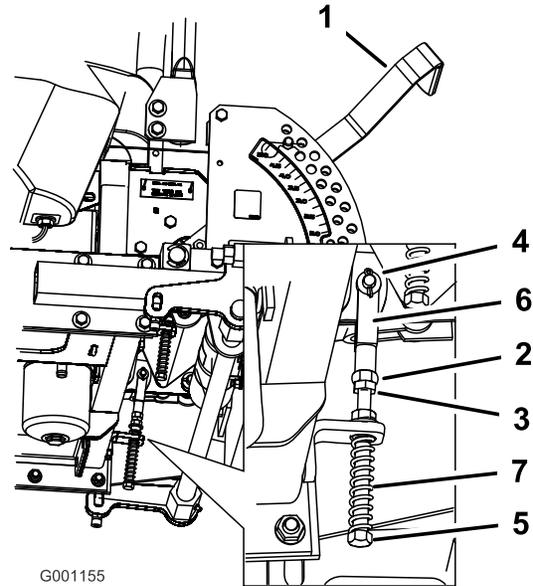

Figure 71
10. Tighten the nut and jam nut (Figure 71).
8. If adjustment is needed, loosen the nut and jam nut against the yoke (Figure 71).
9. Apply slight rearward pressure on the motion control lever, turn the head of the adjustment bolt in the appropriate direction until the control lever is centered in the neutral-lock position (Figure 71).